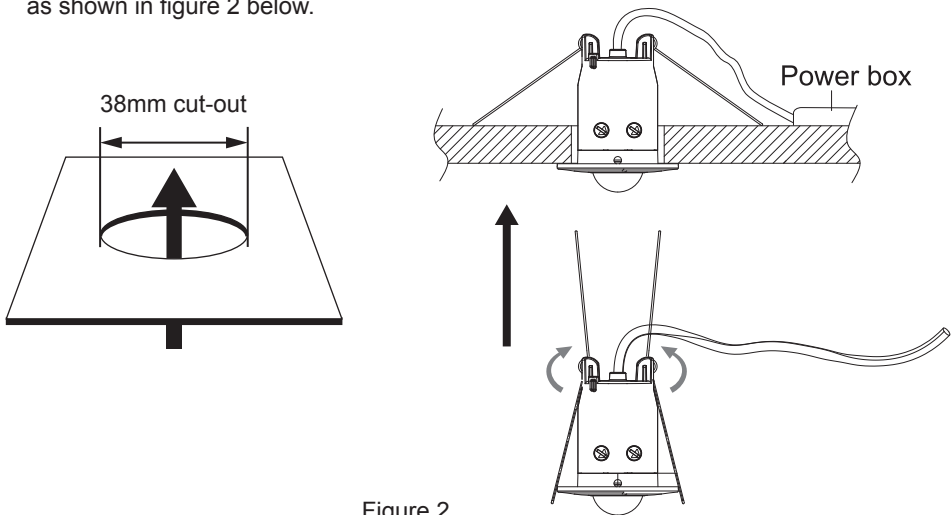

Figure 2
5. Insert the power module into the ceiling first and then fix the sensor with metal spring as shown in figure 2 below.